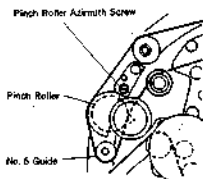

Fig. 12
(9) While adjusting the waveform at the rising edge of the playback, turn the azimuth screw of the Pinch Roller clockwise about 5 degrees step. Then check the rising edge of waveform. (fig. 12).